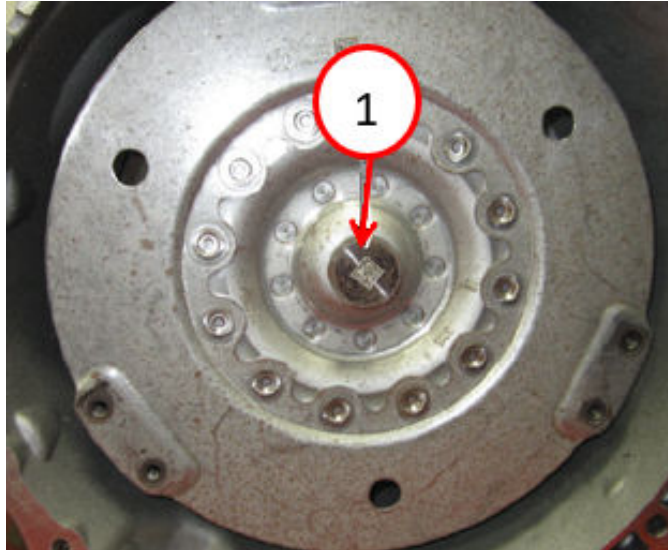

Fig. 1
4. Remove the torque converter Fig. 1.